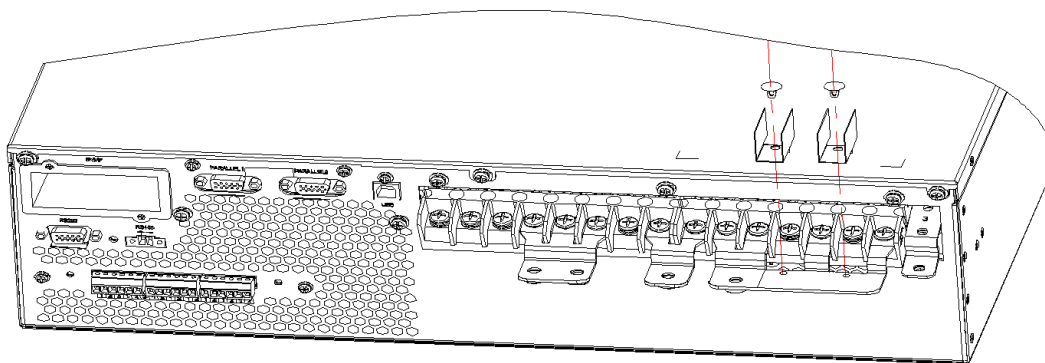
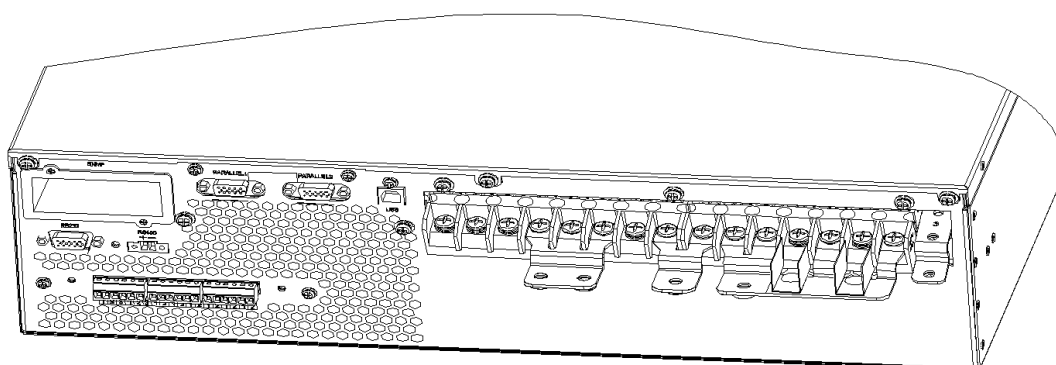

Figure 3-17 Fix insulation film
Figure 3-18 Graphic of insulation film fixed
3. Fix the insulating film (accessory) to the No.6 copper bar as shown in figure 3-17, and fixed in the corresponding position with the plastic rivet, as shown in figure 3-18.